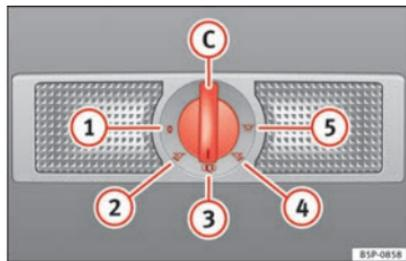

Fig. 76 Interior roof trim: rear interior lights and reading lights.
The switch ⇒ Fig. 76 C is used to select the following positions:
In switch position ⇒ Fig. 76 ①, the interior and reading lights are switched off.